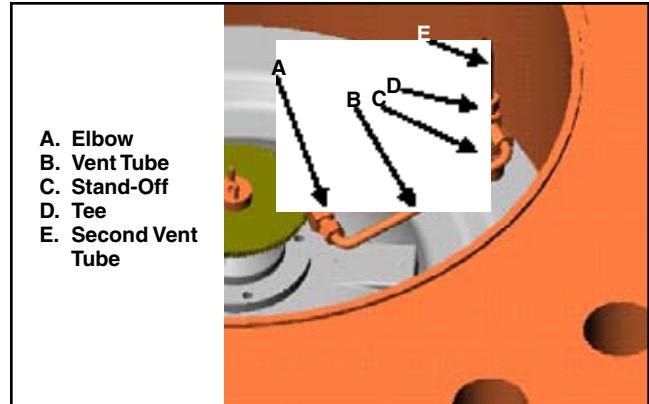

Figure 10A
1. If equipped, remove and inspect the vent tube, Figure 10A. Then check the elbow, vent tube, standoff, tee, and second vent tube for blockage or damage, Figure 10A.